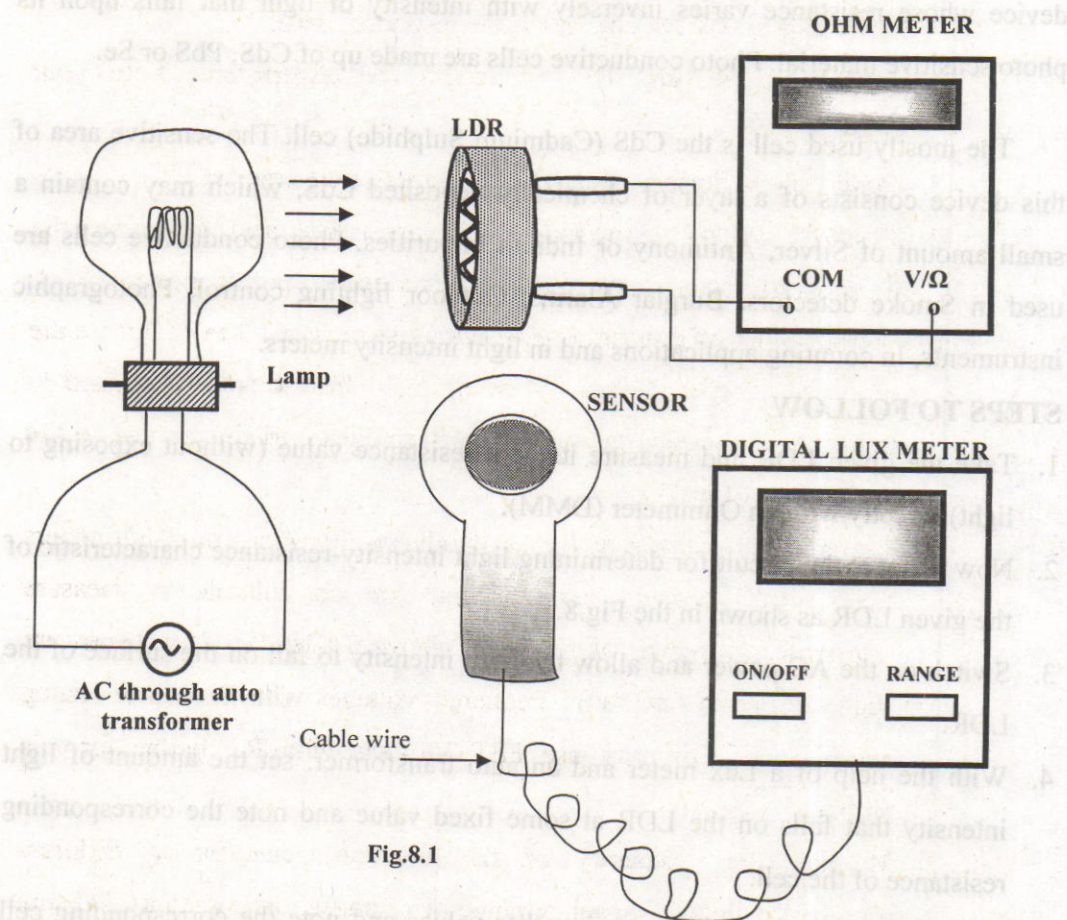

Fig.8.1
2. Now connect the circuit for determining light intensity-resistance characteristic of the given LDR as shown in the Fig.8.1.